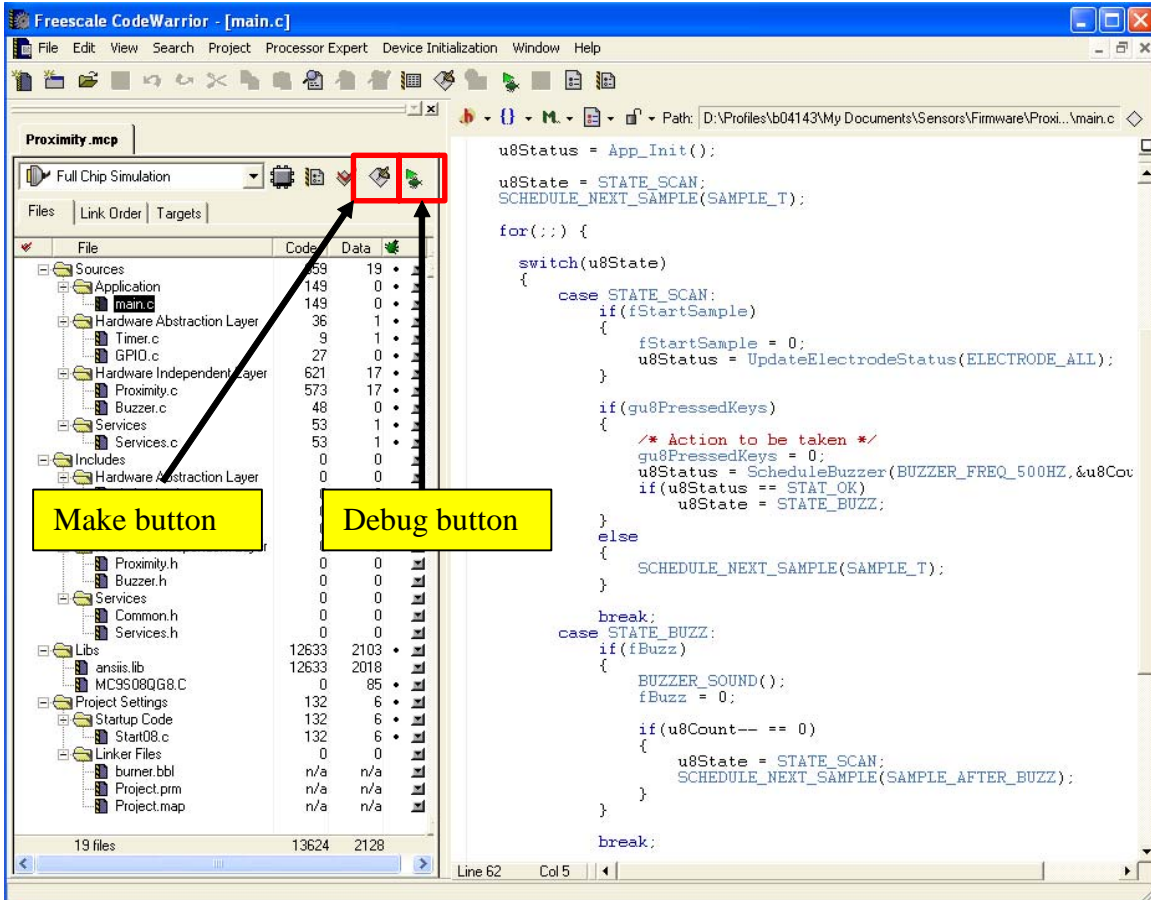

Figure 6. CodeWarrior Buttons
4. Click on the Make button as shown in Figure 6